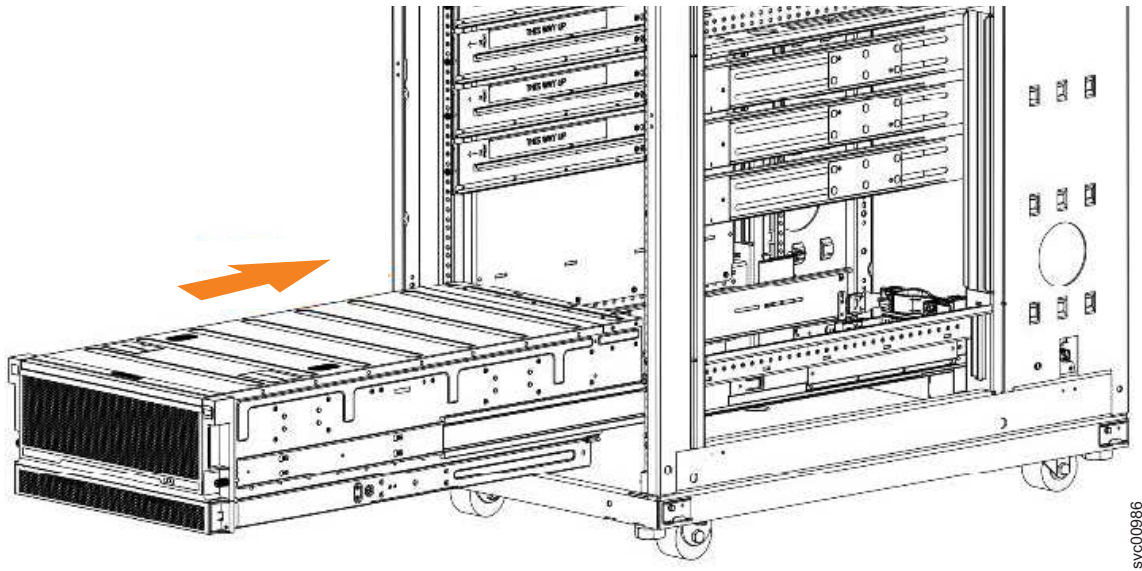

Figure 38. Example installation of the enclosure in the rack
- Install the expansion enclosure in the lowest position in the rack. Figure 38 shows an example.